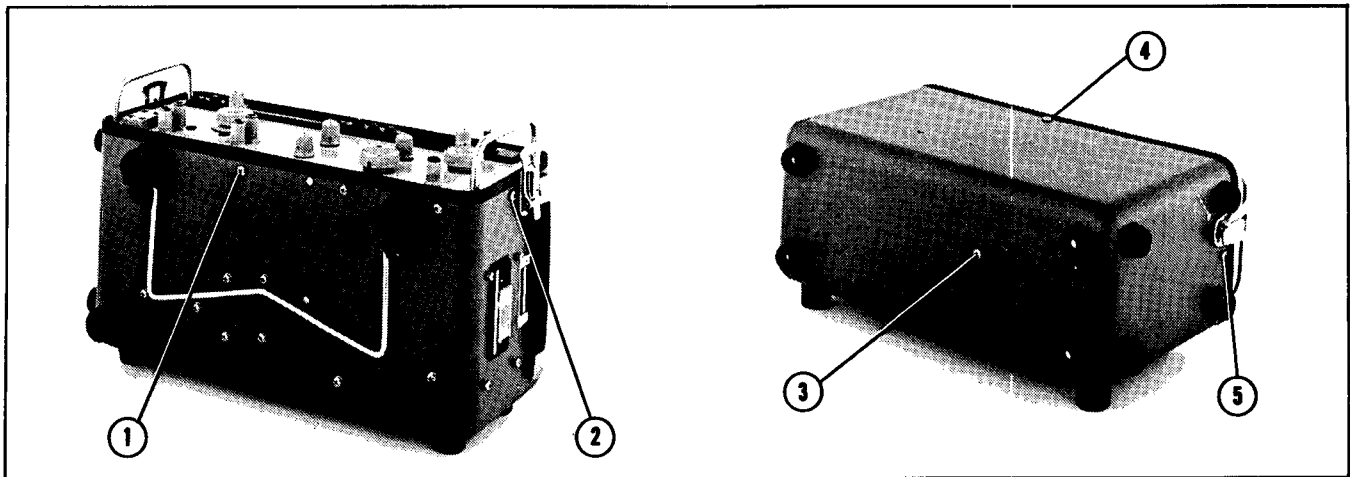

Figure 5-14. Case Disassembly.
- a. To remove the case for access to the internal parts, remove the five phillips head screws shown in Figure 5-14.